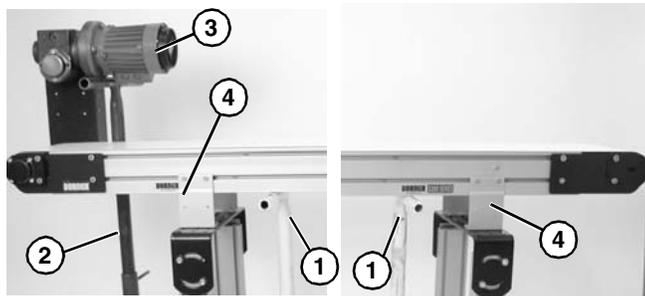

Figure 21
- Place temporary support stands (Figure 21, item 1) at both ends of the conveyor. Place an additional support stand (Figure 21, item 2) under the drive motor (Figure 21, item 3), if equipped. See WARNING.
- Remove mounting brackets (Figure 21, item 4) from one side of conveyor. (Reverse steps 3 & 4 of “Mounting Brackets” section on page 9).
- Ensure temporary support stands (**Figure 21, item 1**) are placed at both ends of the conveyor. Place an additional support stand (**Figure 21, item 2**) under the drive motor (**Figure 21, item 3**), if equipped. See WARNING.